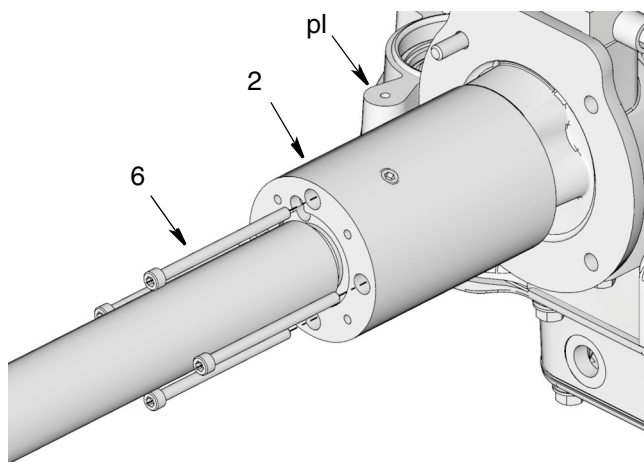

FIG. 46
25. Secure pump adapter (2) to pump lower (pl) using screws (6). Use a socket to tighten screws securely (FIG. 46). Torque to 7-9 ft lbs (9.49-12.2 N.m).